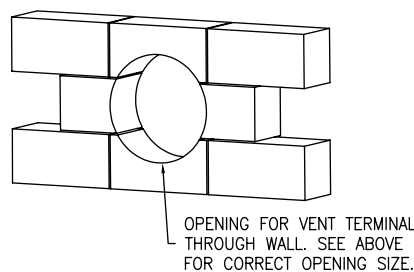

Figure 4
- (a) Cut an opening of at least 8 1/2 inch (21.6 cm) in diameter. (See Figure 4).